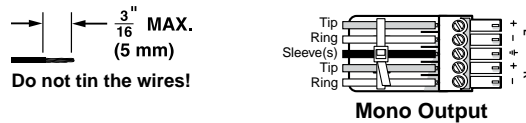

Figure 8. Captive screw connector wiring for audio output
- ⑥ **Mono Audio (local audio) output** — Connect an audio device, such as an audio amplifier or powered speakers to this 3.5 mm, 5-pole captive screw connector. This connector outputs the selected unamplified, mono line level audio. See figure 8 to properly wire the output connector. Use the supplied tie-wrap to strap the audio cable to the extended tail of the connector.